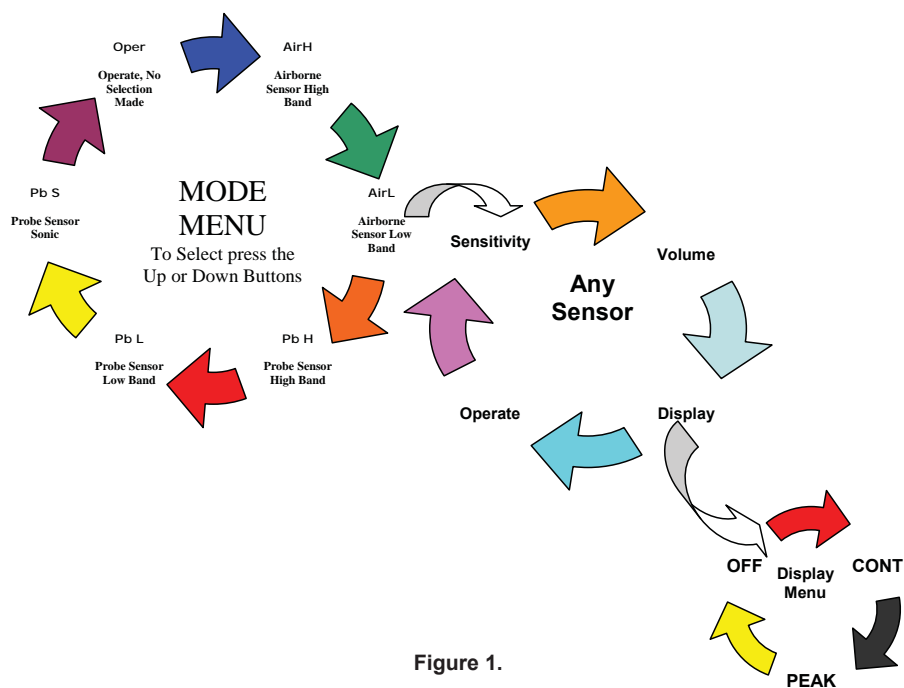

Figure 1.
3. See Figure 1 for a list of the views in order.